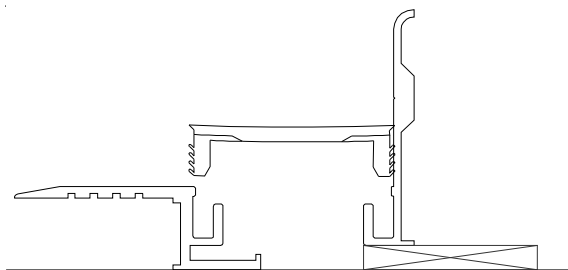
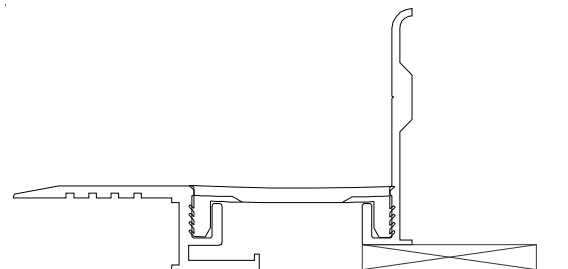

Figure 4
Figure 5
STEP 7. Place the base member and the wall member about the width of the elastomeric seal apart on a flat working surface. Ensure that the base member's and the wall member's channels are facing one another (see Figure 4). Insert one of the elastomeric seal's tabs into the channel in one of the base members. Ensure that the seal's tab is inserted completely into the channel. Insert the elastomeric seal's opposite tab into the channel in the opposite base member (see Figure 5). Ensure that the seal's tab is inserted completely into the channel.